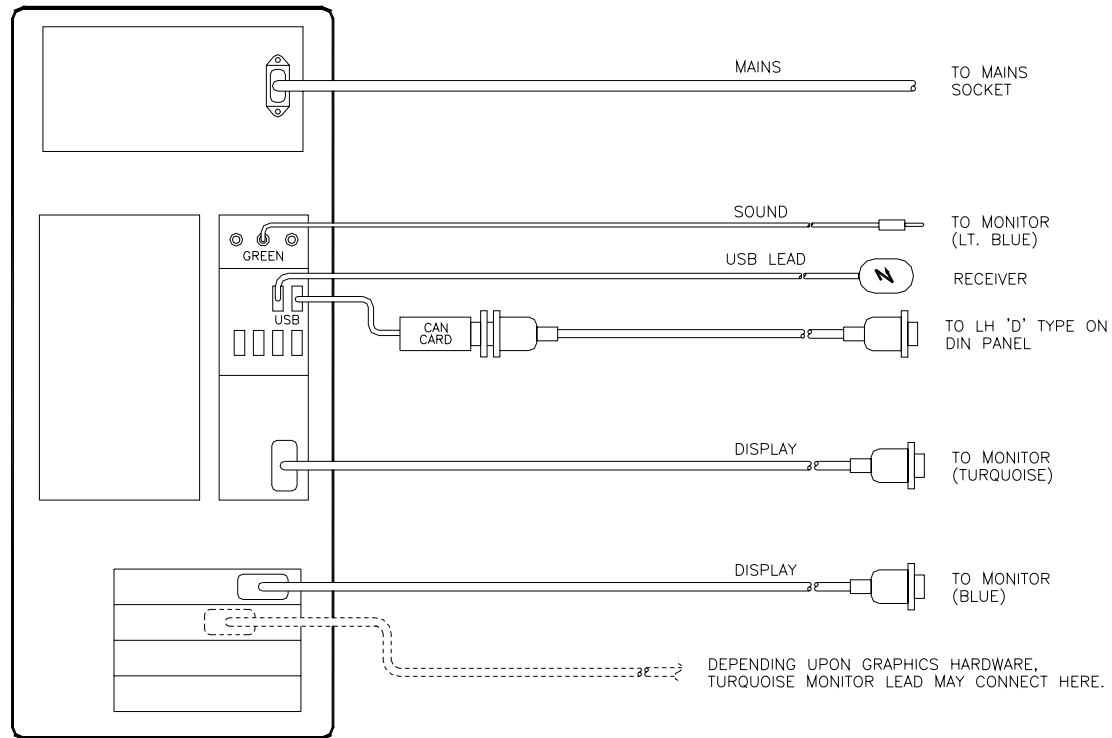

Fig. 1.8
- 1.3.7 Connect the PC to the monitor and Maximailer CAN connector as shown in Fig. 1.8 opposite. Plug the PC and monitor mains leads into suitable power sockets.